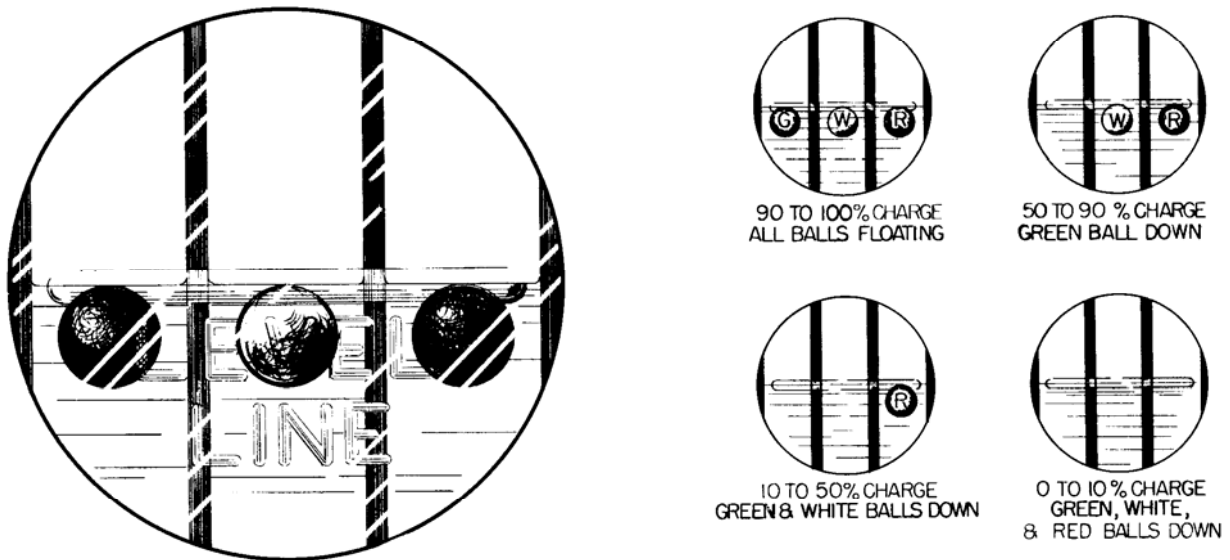

Figure 6-2. Battery Charge-Indicator Balls
*a.* INDICATION OF BATTERY CHARGE.—Battery condition is shown by three colored ball indicators as shown in Fig. 6-2. When all three balls float at the liquid level line the battery is charged. As the battery is discharged the green ball will sink first, then the white. When the red ball falls the battery is discharged. See table 6-1 for battery discharge indications. Due to the heavy current drawn by the transmitter (see table 1-6), it is advisable to recharge the battery after the white balls have sunk to insure transmitter operation.
- Step 1. Check the electrolyte level in both batteries through the inspection windows while the battery assembly is level, and add distilled water to bring up to the level line, if needed. See figure 6-2.